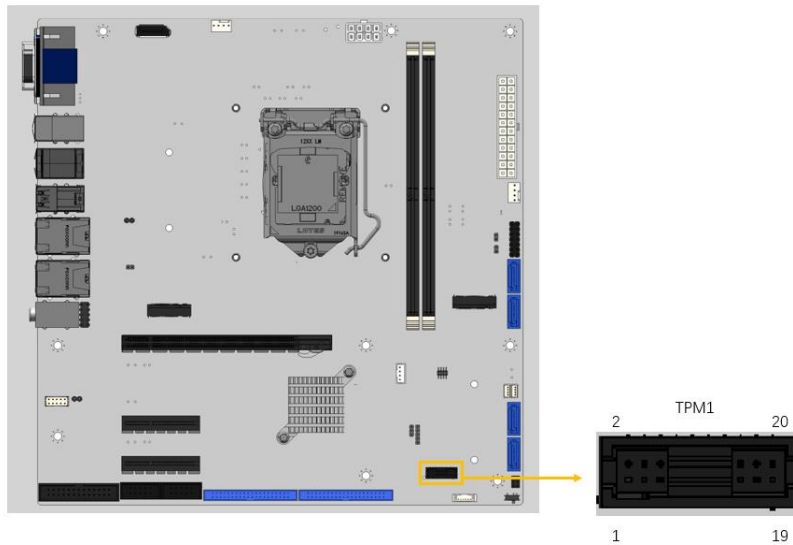

Figure 3-19: Trusted Platform Module Connector Location
- CN Location:** See Figure 3-19